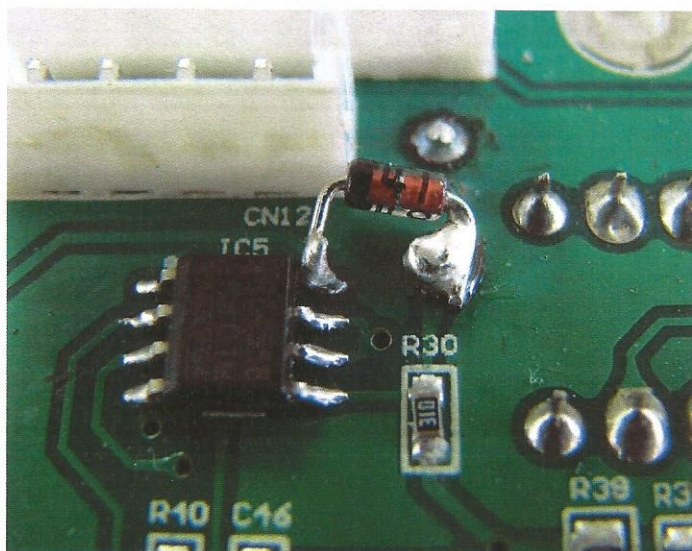

Figure 5 – Connection of the diode.
7. Solder the diode as shown in Figure 5. Note that the Cathode (Band) is soldered to IC5 pin 8, and the Anode is soldered to the leg of the new resistor at the PCB surface-mount side pad. This pad is connected by track to R30 and IC5 pin 5.